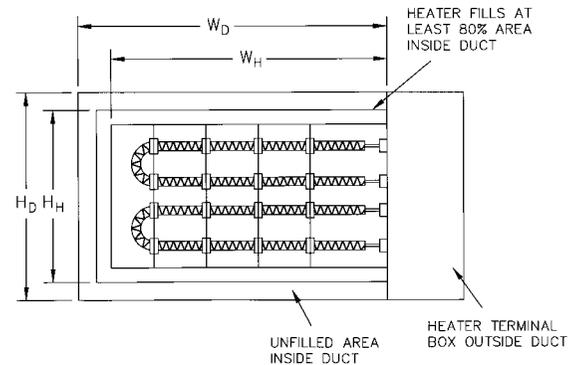

Figure 43.
**The 80% Rule** – INDEECO recommends the heater should occupy at least 80% of the actual inside area of the duct as shown in Figure 43. Only small amounts of air will bypass the heater around its perimeter and normal turbulence will rapidly mix this unheated air with heated air downstream.